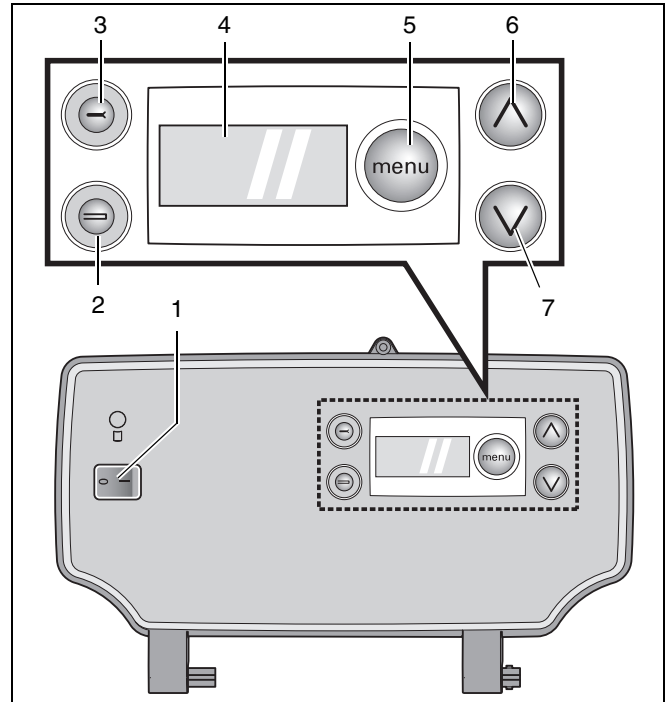

fig. 1 DBA
1. Mains switch (see fig. 1)
2. Reset button (see fig. 1)
3. Service Button (see fig. 1)
4. Display (see fig. 1)
5. Menu button (see fig. 1)
6. and 7. Up and Down keys (see fig. 1)